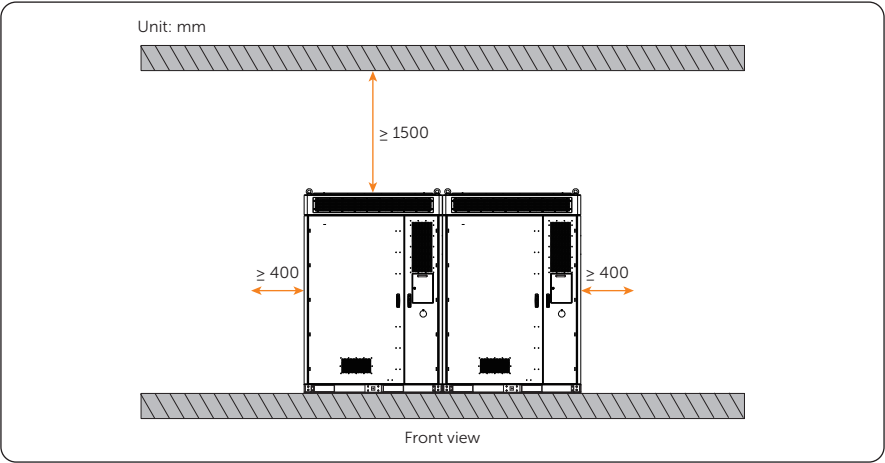

Figure 4-7 Two and more cabinets
- Multiple cabinets (see Figure 4-7 and Figure 4-8)